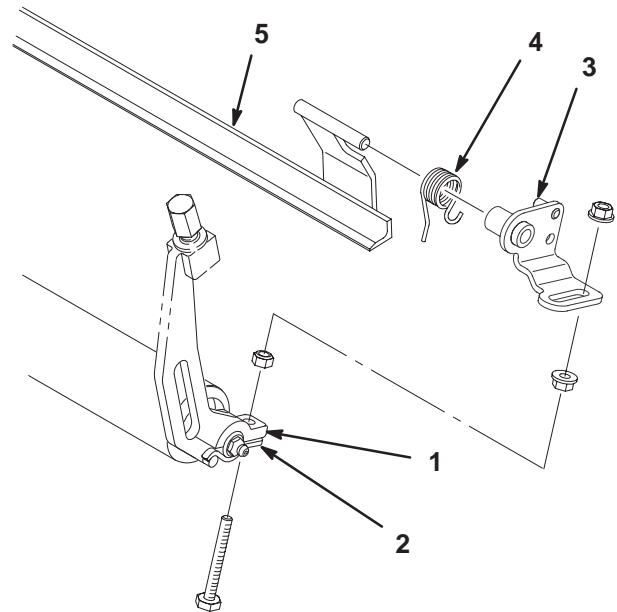

Figure 1
1. Remove the carriage bolt and nut securing the rear of each roller collar to the roller bracket (Fig. 1).
2. Insert a 8 mm capscrew through the holes in the roller collar and roller bracket and secure it with a locknut, as shown in Figure 1.